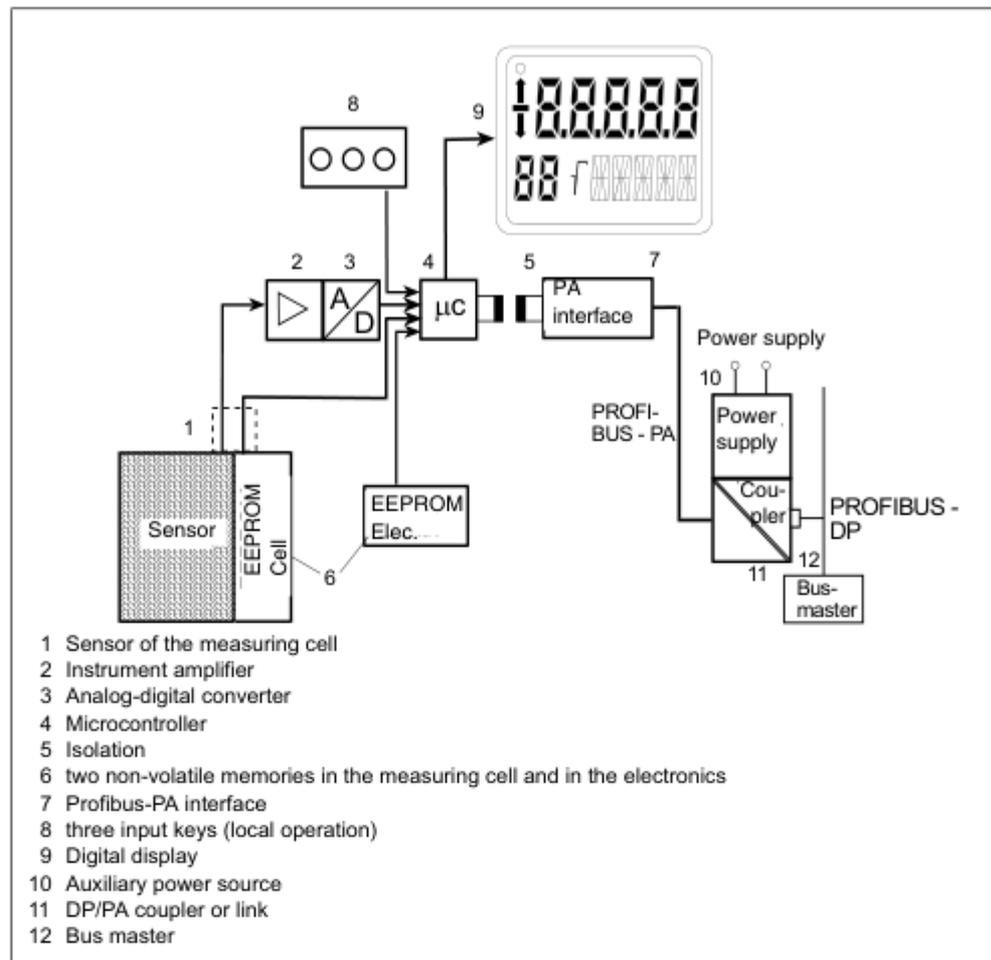

Figure 5 Transmitter SITRANS P, Series DS III PA, electronics
The input variable provided by the sensor (1, Figure 5) is amplified by an instrument amplifier (2) and converted into a digital signal via an analog-digital converter (3). This is evaluated in a microprocessor (4), its linearity and temperature behavior corrected and made available using the isolated interface (5) on the PROFIBUS-PA (7). The measuring cell-specific data of the electronics and the data for transmitter parameterization are stored in two non-volatile memories (6).